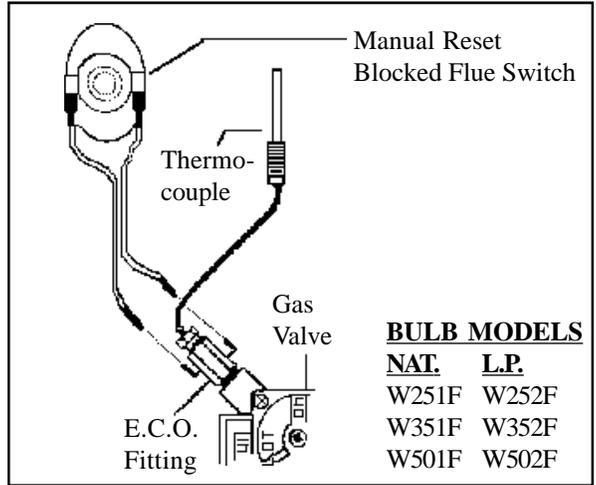
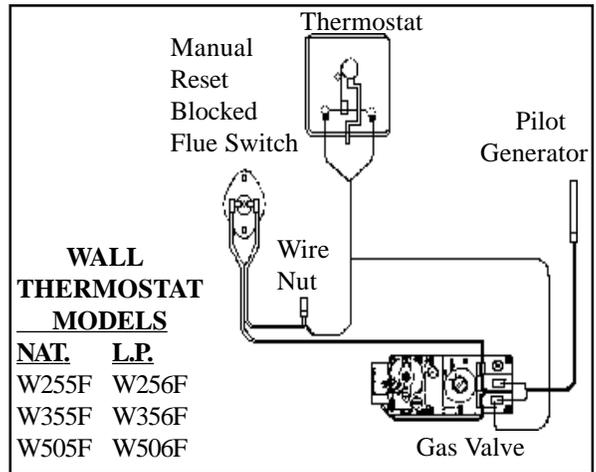

FIGURE 1
FIGURE 2
STEP 2. Cut out an opening between the studs of 14-3/8" x 66-1/2" above the floor plate. Embed the rear flange of the channel on top of header into either the drywall or the plastered wall. This provides part of the required fire stop. Square up and nail the header in place with the top front of header located 65-3/4" above floor plate. (See arrow on right side of header and Figure 1, 5A and 5B on Page 7).
STEP 3. Rough in 1/2" gas supply on center line of left stud either 4" above top of floor plate or 4" to right of left stud through floor plate. See Figure 1 located on Page 7.
YOUR FURNACE MAY BE EQUIPPED WITH EITHER A WALL THERMOSTAT (Figure 2) OR SNAP-BULB, BUILT-IN THERMOSTAT (Figure 1) CONTROL. CHECK THE CONTROL ASSEMBLY TO DETERMINE WHICH WIRING EXAMPLE TO USE.